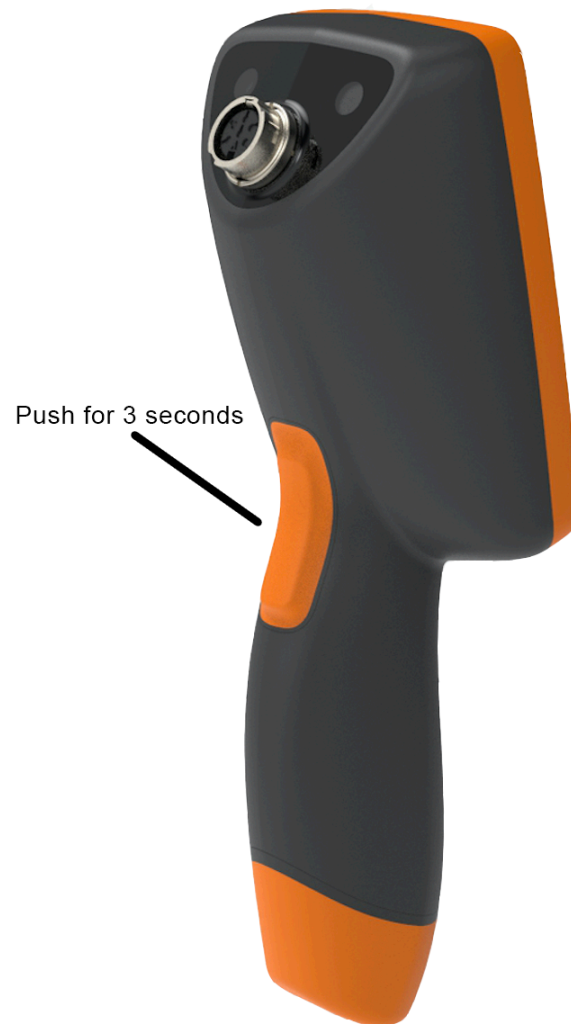

Fig. 10 – Powering on the Smart Probe
1. To switch on the Smart Probe, hold the trigger button for 3 seconds (see fig. 10).